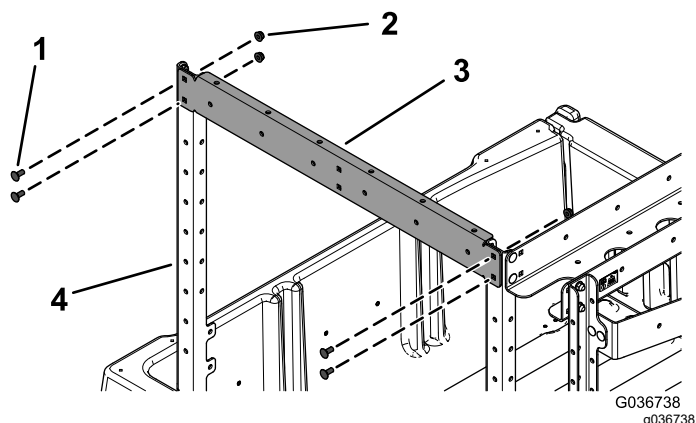

Figure 6
5. Install the front support bracket (with 2 holes on each side) to the top of the 2 front upright frame brackets with 4 carriage bolts (5/16 x 3/4 inch) and 4 flange nuts (5/16 inch) as shown in Figure 6.